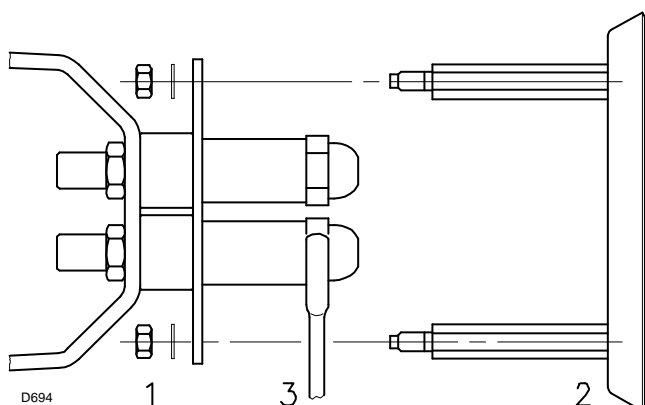

Fig. 12
- Remove the nuts 1) (Fig. 12) and the disk 2).
- Use spanner 3) (Fig. 12) to change the nozzles.